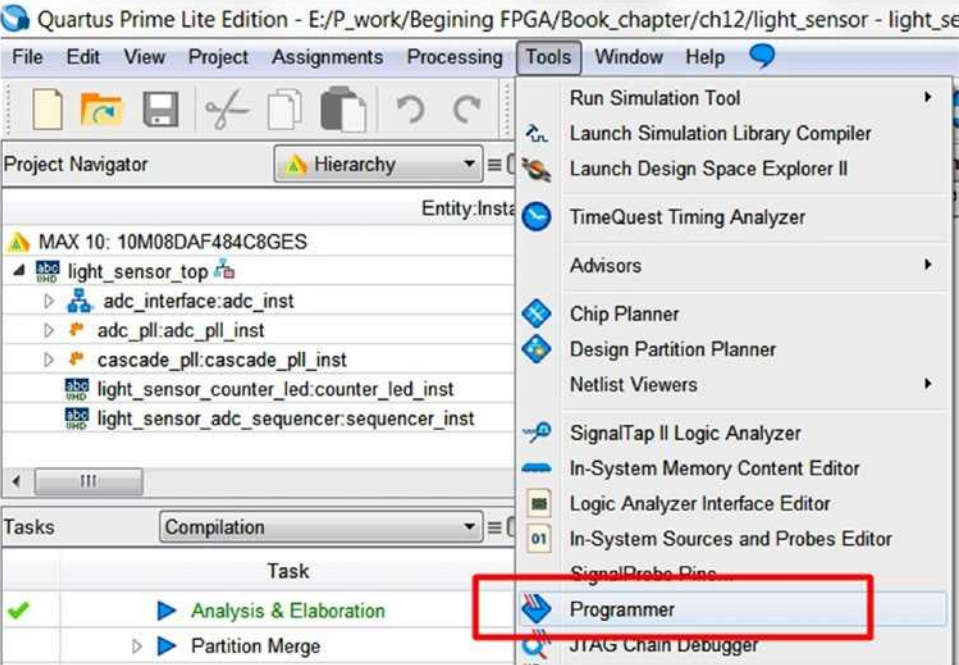
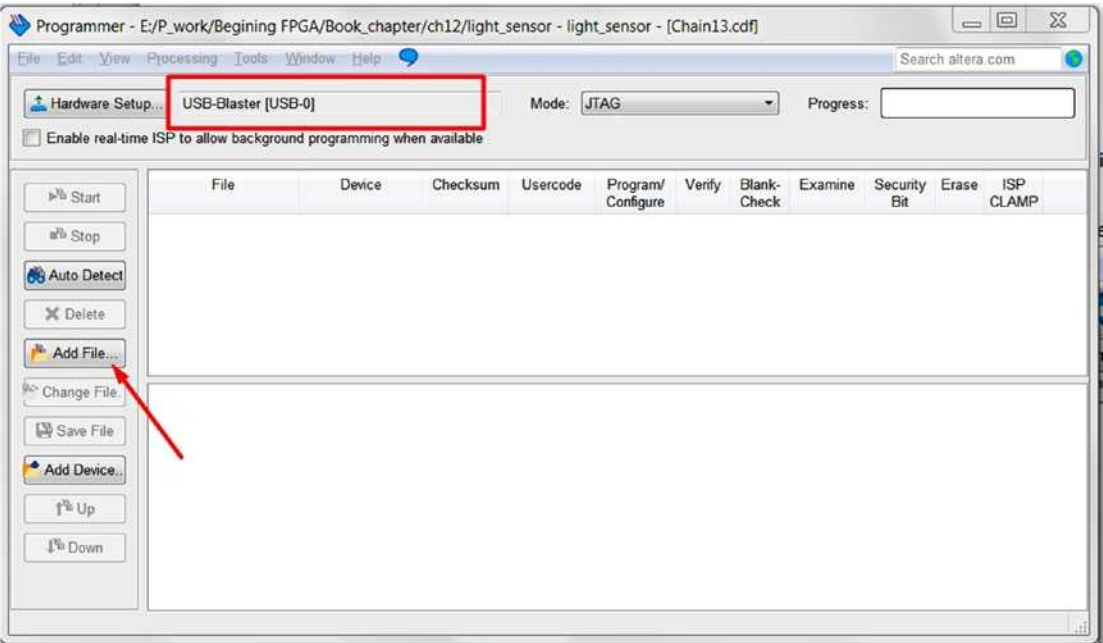
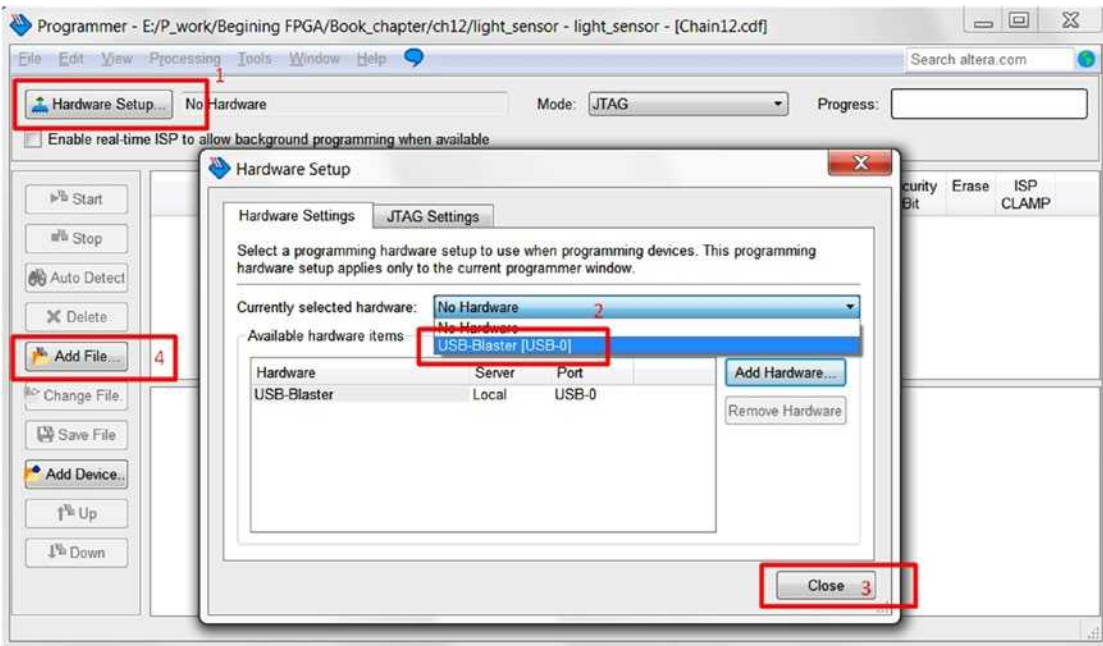

Figure 12-43. Open programmer in Quartus Prime
Figure 12-44. Programmer with the correct programmer setting
Figure 12-45. Programmer setting for a new USB-Blaster programmer
Step 1: Open the Quartus Prime programmer window from the Tools menu (Figure 12-43) or click  from the toolbar. If the BeMicro Max10 board is connected and the USB-Blaster II device driver has been installed successfully on your computer (Figure 12-44), you can go to step 2. If your programmer is shown as in Figure 45, you need to plug in your BeMicro Max10 FPGA board. Before you can go to step 2, you need to follow the steps in Figure 12-45.